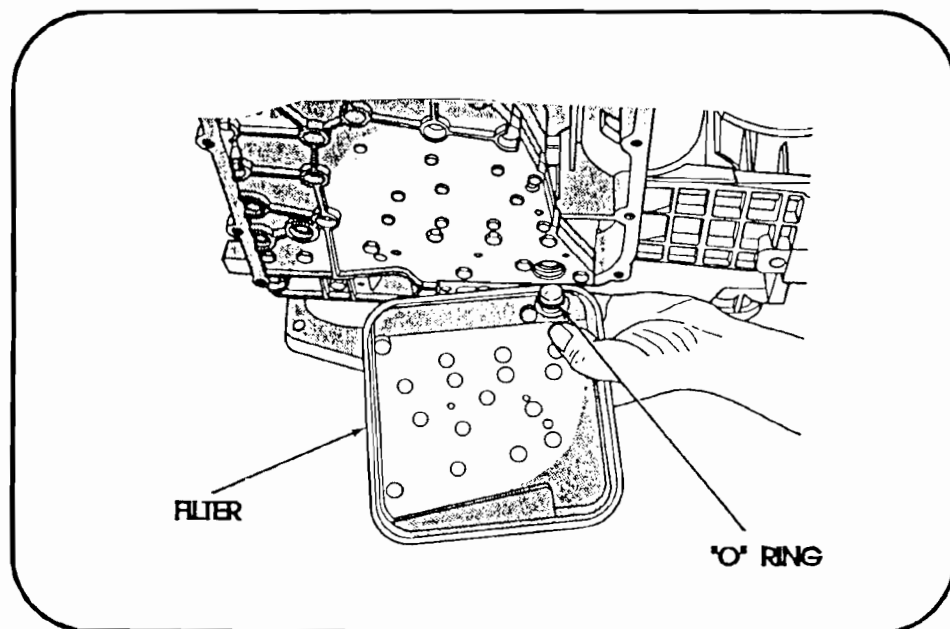

Figure 83
- NOTE:** Always replace the filter "O" ring and pre-fill the filter with clean fluid. (see figure 83).